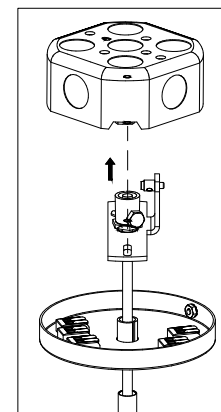

Figure 2: Base Mounting [1/2]
4. Make pendant electrical wiring connections to supply wiring: [Figure 2]
5. Attach canopy mounting kit onto 4" octagonal wiring box using [2] Phillips screws. [Figure 2]